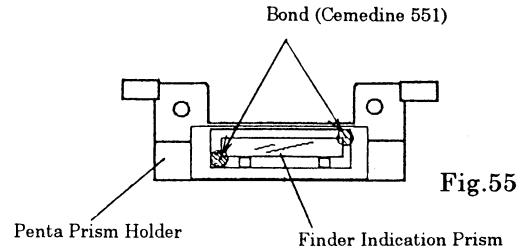

Fig.55
- The Finder Indication Prism is fixed with the bond (Cemedine 551). (See Fig. 55)
- 11) Remove the Penta Prism Spacer (1AF80300), Condenser Lens (1AF80600) and Viewfinder Frame (A) (1AF80700).
- 1) On the Penta Prism Holder, install the Viewfinder Frame (A) (1AF80700), Condenser Lens (1AF80600) and Penta Prism Spacer (1AF80300) in the named order.
- 3) Apply the bond (Cemedine 551) as shown in Fig. 55.